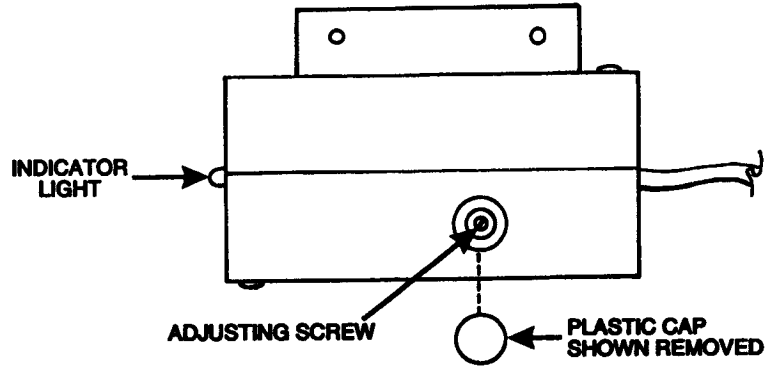

Figure C1
1. Remove the plastic cap in the rear of the sensing unit, exposing the potentiometer adjusting screw, as shown in figure C1.